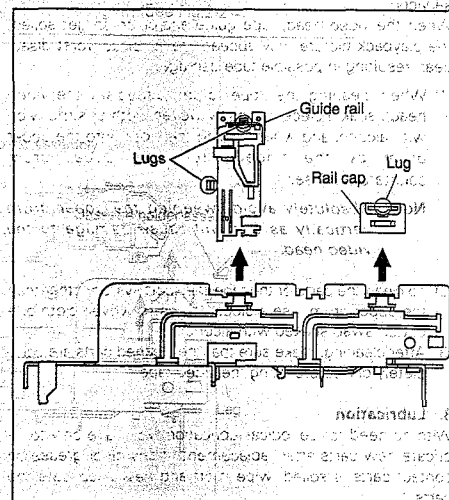

Fig. 2-2-2
- (1) Remove the guide rail and rail cap. (See Fig.2-2-2).
- (2) Lugs on the guide rail and one lug on the rail cap